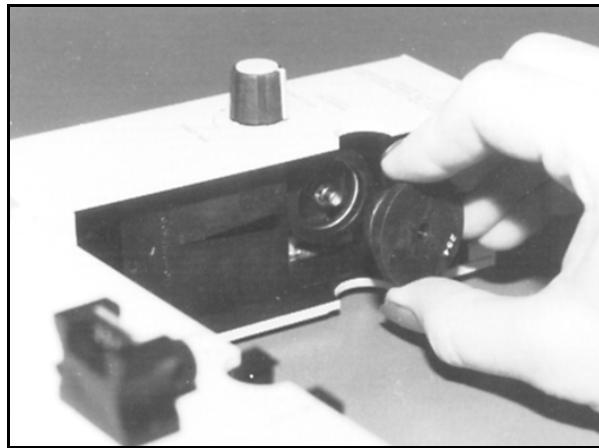

Figure 2-3 Changing Wavelengths in the Type 11 Optical Unit
1. Release the two white catches on the front of the unit and open the Type 11 and remove the wavelength filters from each side of the optical unit as shown in Figure 2-3. (The BASELINE ADJUST control on the optical unit will have to be used to clear the access to the filter.) Remove the fil-